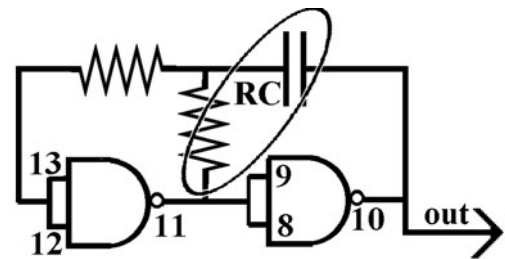

Figure L48-3
- **The Self-Kicking Oscillator:** The schematic for the self-kicking oscillator is shown in Figure L48-3. Remember that the frequency is set by the RC. The inputs of the unused gates have been set to ground.